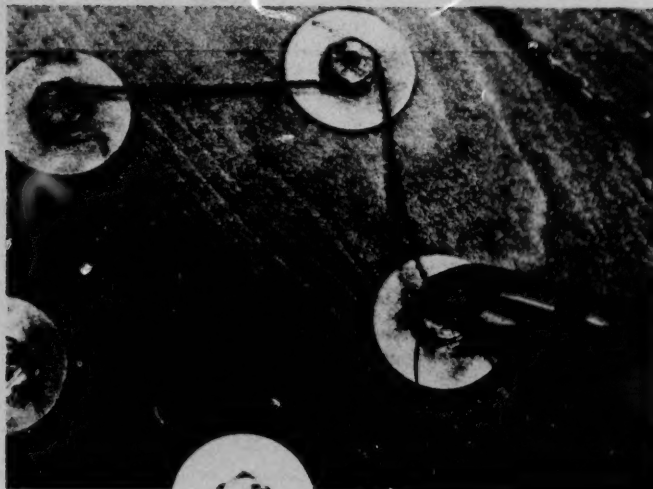

Figure 17. Taking Wire to Next Bolt head.
15. Now, repeat steps 6 thru 10 to arrive at the point shown in figure 17.